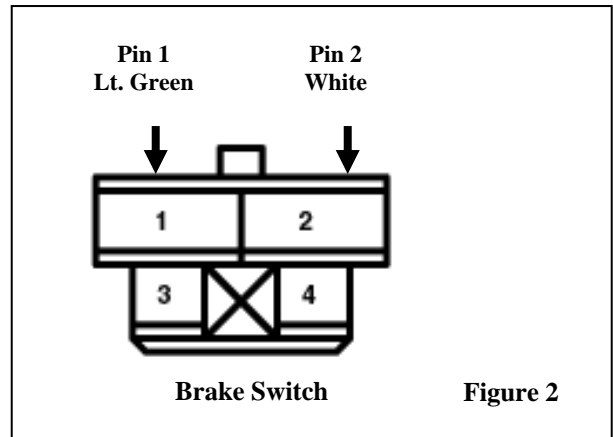

Figure 2
- 3. Assemble (2) 3-pin connectors from the sack parts to the mating wire colors on the **Control Switch Harness**. Use the diagram to mate the **module harness** to **switch harness**. **Figure 2**